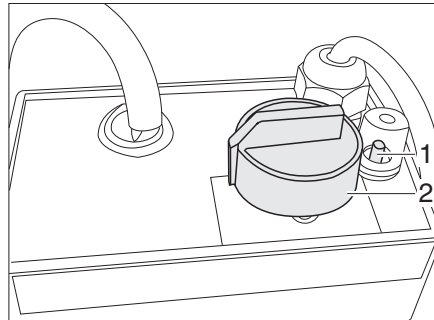

Fig. 334 Regulator for electrical floor warming/bed warming unit
- Turn the control knob (Fig. 334,2) to the desired heating level.
- Turn the control knob (Fig. 334,2) to the setting "0".
If the regulator is overloaded, the overload protection is actuated. The pin (Fig. 334,1) will trip.
- Press in the pin (Fig. 334,1) at the overload protection when the regulator has cooled down.